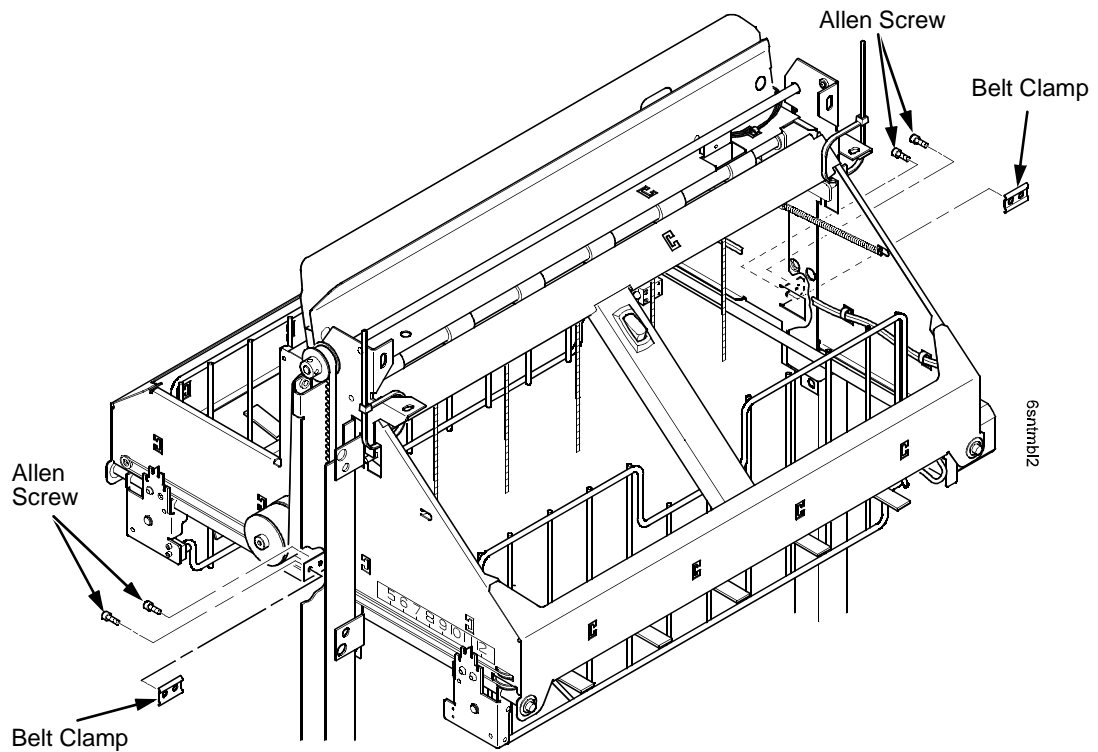

Figure 92. Removing the Belt Clamps
7. Remove two Allen screws from the belt clamp that secures the timing belt to the stacker frame. (Figure 92.)